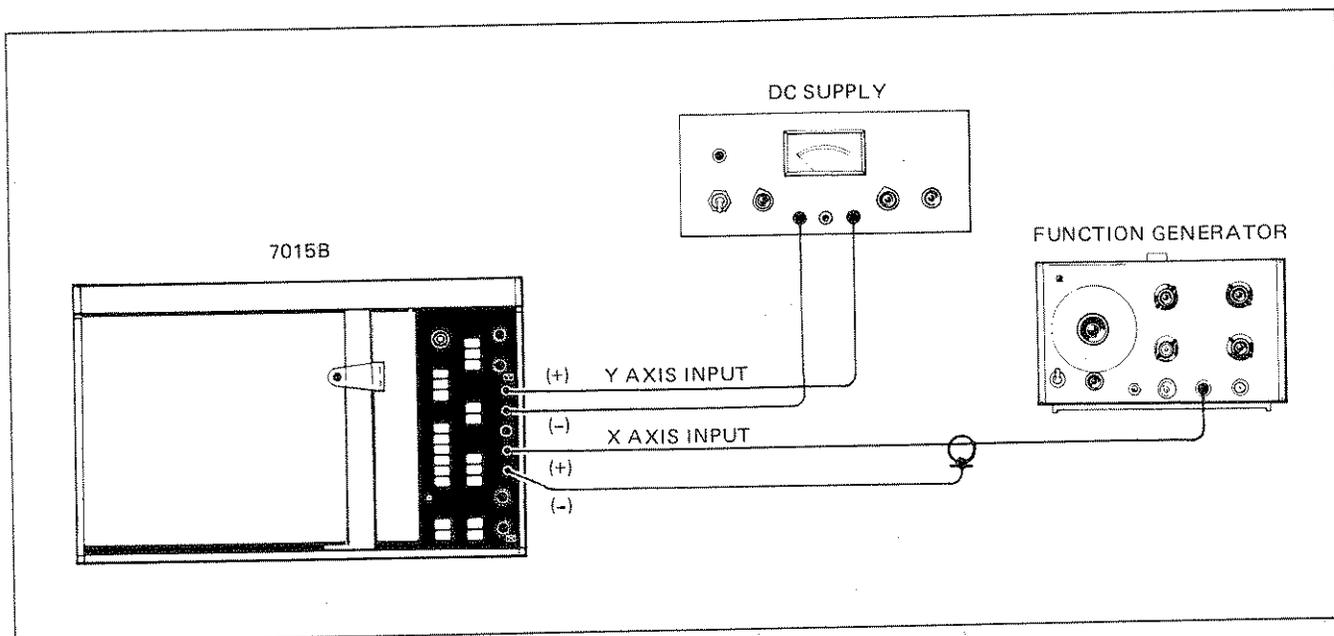

Figure 4-4. Connection for Slewing Test
a. Connect the recorder as shown in Figure 4-4.